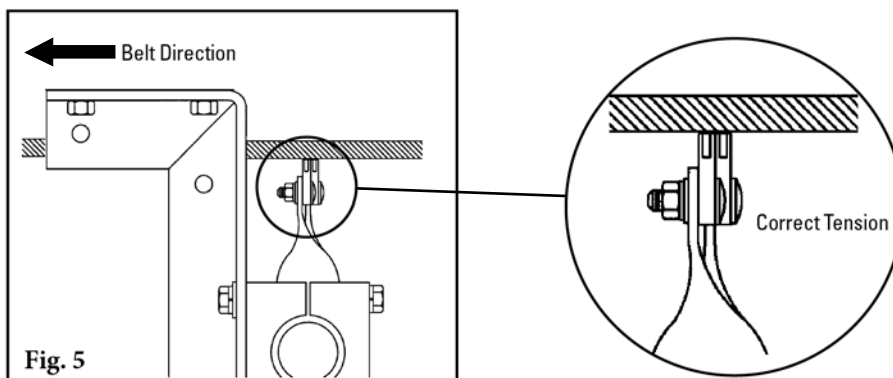

Fig. 5
5. **Check the tip tension.** Pull back on the outside tip until the belt-to-tip contact is broken and release. The total blade thickness of the adjacent tip must be visible (Fig. 5). Add or reduce tension by 1/2 turn (see STEP 4) until full thickness of the adjacent tip is visible.
5. **Check blade tip tension.** Pull back on the outer blade in the direction of belt travel until the blade breaks contact with the belt. Let go of the blade. With correct tension the full thickness of the adjacent blade tip should be visible in front of the outer blade (Fig. 5). Also check the center blade in same manner. Add tension in 1/2-turn increments on the top adjusting bolt jam nuts until view of full thickness of the adjacent blade tip is obtained.